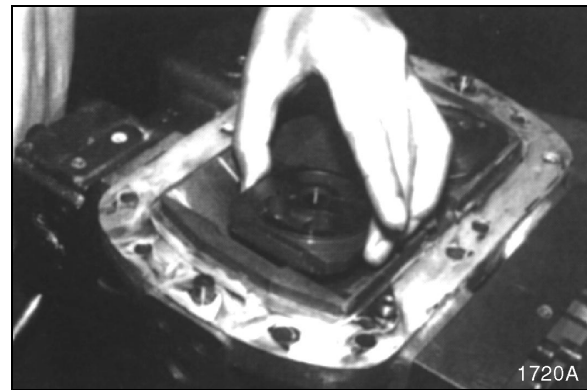

Figure 126
21. Install control plates to main control body so that ribs face out. See Figure 126.